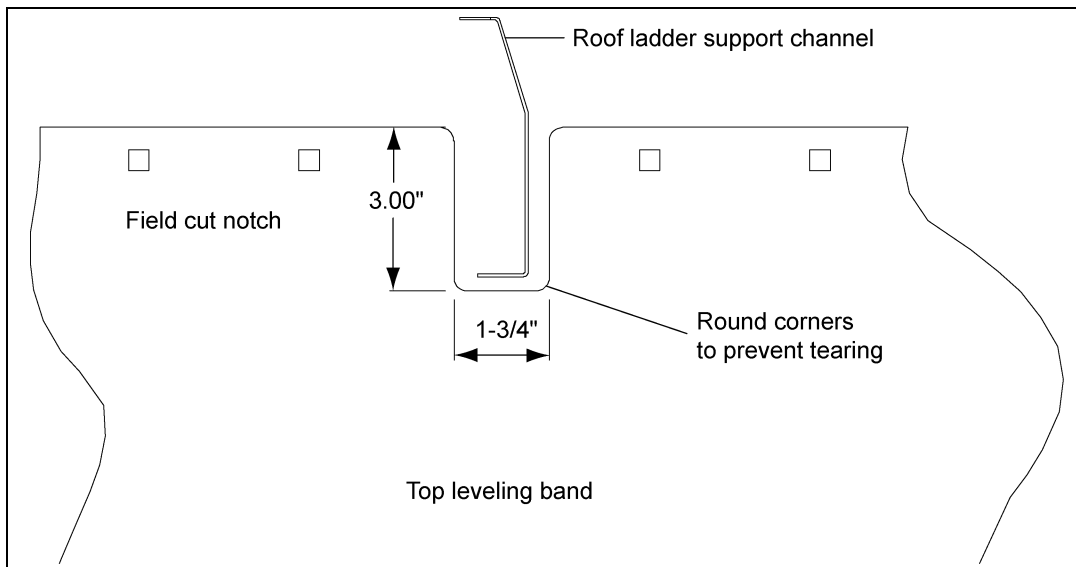

Figure 8P
NOTE: Field cut rounded notches in the outer leveling band(s) where the two (2) roof support channels hang from the roof ribs. (See Figure 8P.)